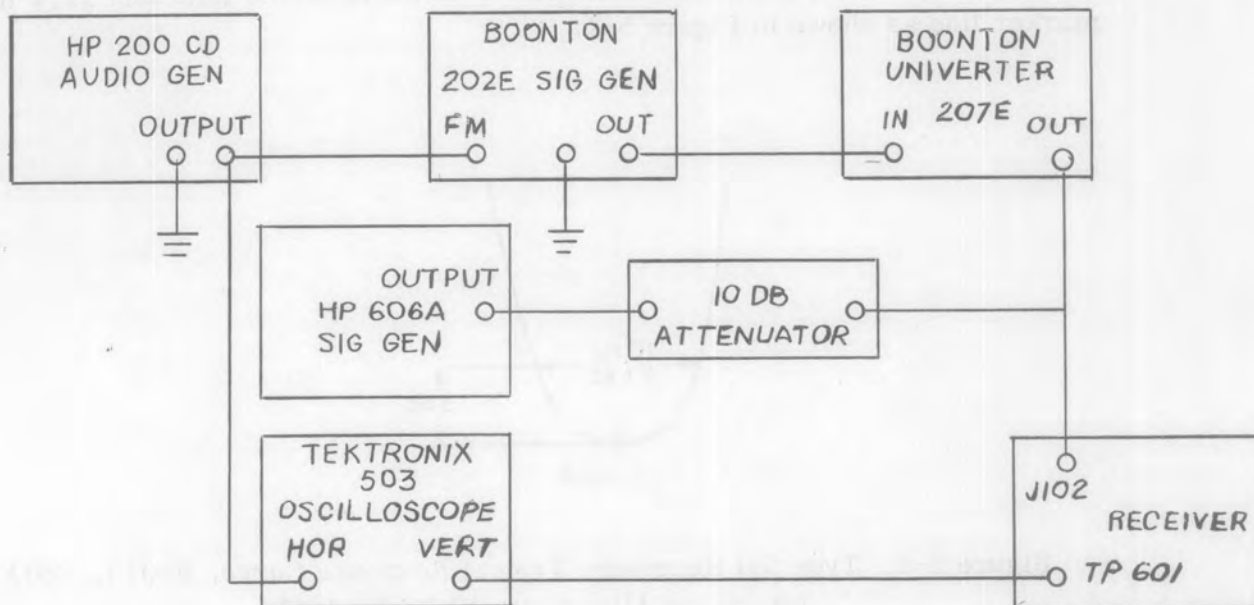

Figure 5-1. Type 501 Receiver, Equipment Setup, V601 to V602 Interstage Alignment, 10-kc Bandwidth
- (1) Set up test equipment as shown in Figure 5-1.